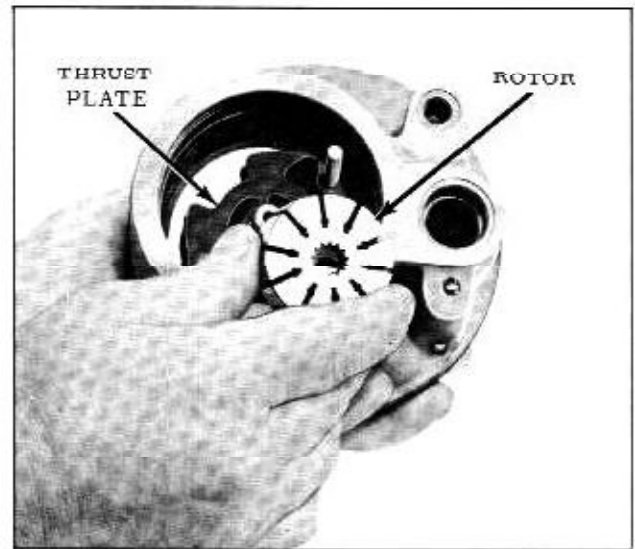

Fig. 4-55 Removing Rotor and Thrust Plate
11. Remove rotor and thrust plate. (Fig. 4-55)